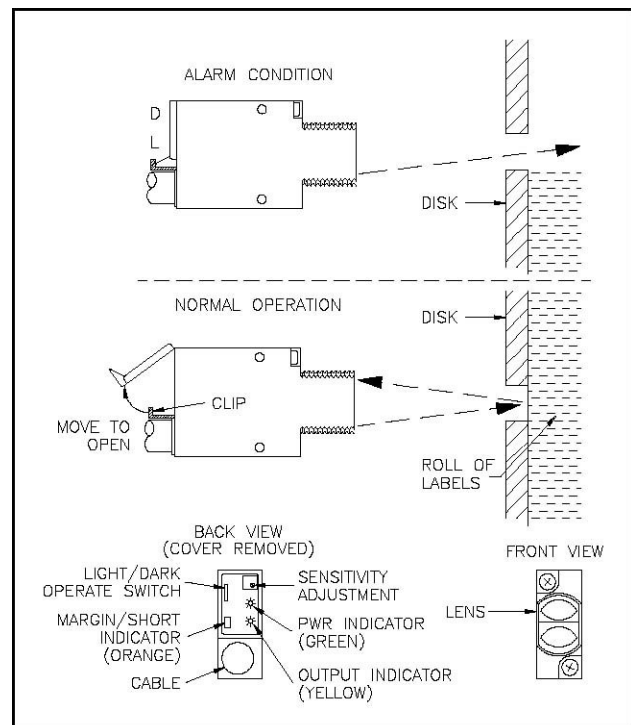

Figure 20 Low Label Detector
3. The rear cover window on the detector must be opened before any adjustments can be made. See *Figure 20*. Press the flexible retaining clip against the cable to open the window.